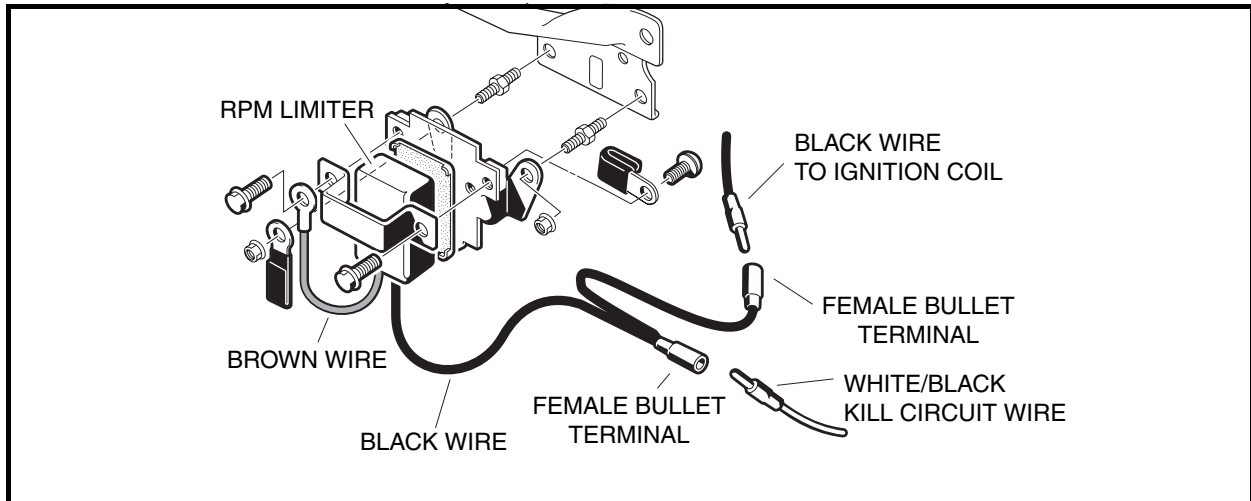
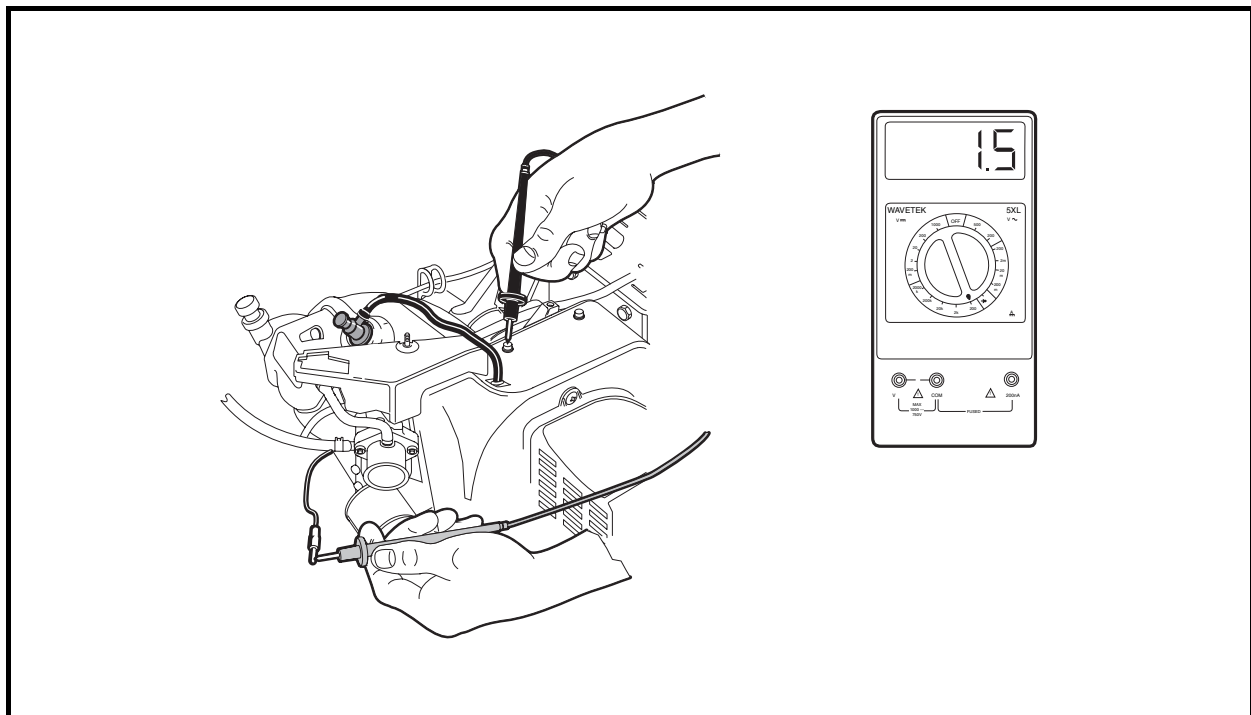

Figure 11-23 RPM Limiter
Figure 11-24 Primary Coil Resistance – In Vehicle Test
3. Disconnect both of the bullet terminals (**Figure 11-23, Page 11-23**).
- 3.1. Disconnect both of the bullet terminals at the RPM limiter (**Figure 11-23, Page 11-23**). Place the red (+) probe of the meter on the male bullet terminal of the wire connecting to the ignition coil under the fan housing, and place the black (–) probe on a clean unpainted surface of the engine or frame (**Figure 11-24, Page 11-23**).